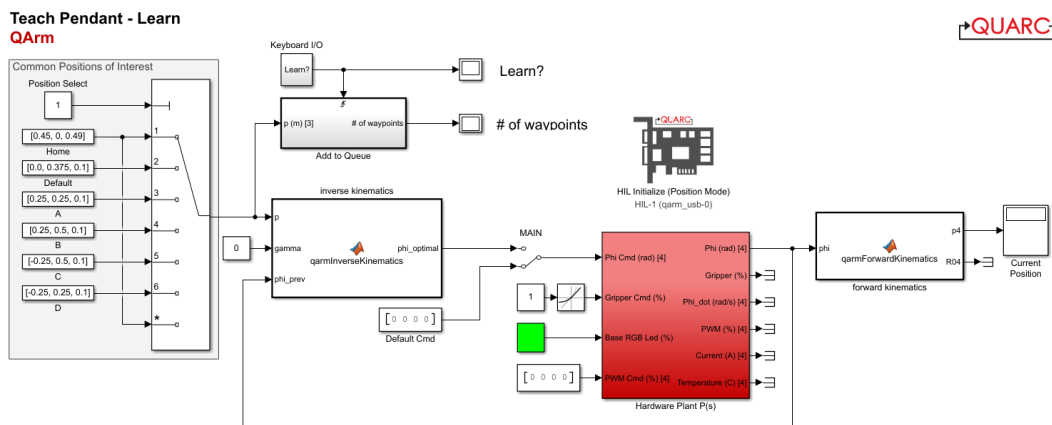

Figure 2: Simulink model *TeachPendant_Learn.slx*
- Open the Simulink model TeachPendant_Learn.slx (Figure 2). You will use this model to "teach" the Quanser QArm a series of waypoints that simulate a robotic assembly process. This model emulates the learning mode of a real teach pendant.